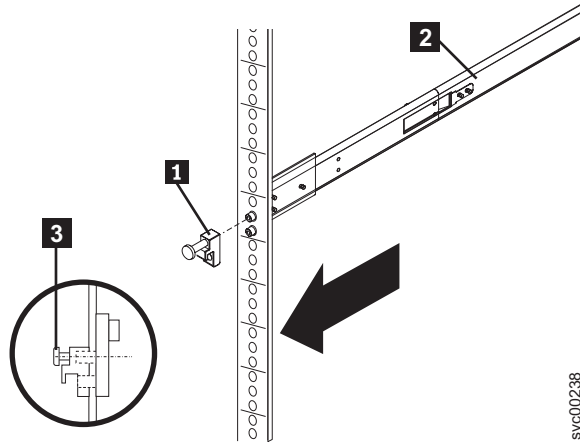

Figure 39. Attaching the latch strike to the front of the rail
5. Attach one latch strike **1** to the front of the right rail **2**, as shown in Figure 39 on page 53, using the captive screw **3**. Turn the screw only finger tight. Attach the other latch strike to the front of the left rail in the same way.